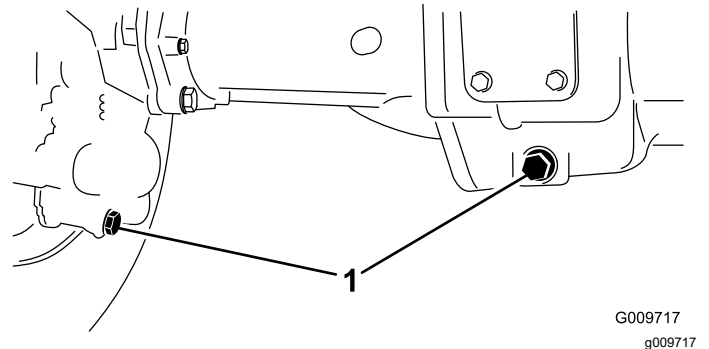

Figure 67
2. Clean the area around the 3 drain plugs—1 on each end and 1 in the center (Figure 67).